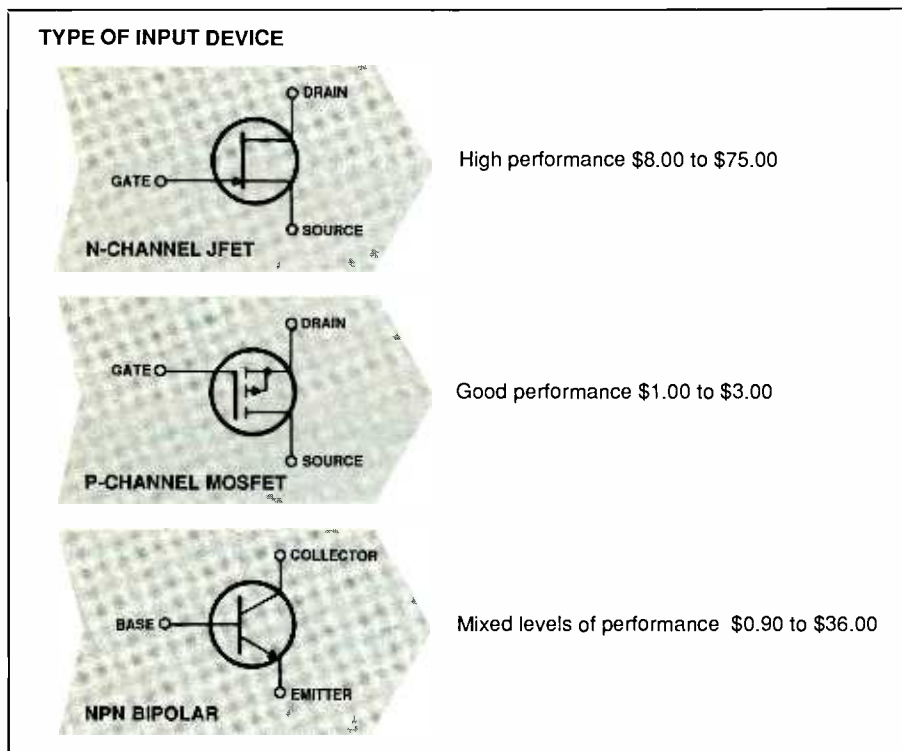

Fig. 2. How the three types of op-amp input devices relate to each other in price/performance.
Each of the new generation of op amps generally falls into one of three price/performance categories: JFET-input devices, MOS-input devices and bipolar-input devices. Details of these three different types of devices are illustrated in Fig. 2.
To minimize input bias current in both JFET and MOS devices, input stages use field-effect transistors, or FETs, that are often special versions of junction field-effect transistors, or JFETs. They include dielectrically isolated (DI) JFET, the junction-isolated FET, PMOS and silicon-gate CMOS devices. All these special transistors are used because of their extremely low input bias (leakage) current characteristics. Bias currents amounting to as few as 60 electrons per millisecond (1 femtoampere) are achieved. Figure 2 shows details of these transistor devices.